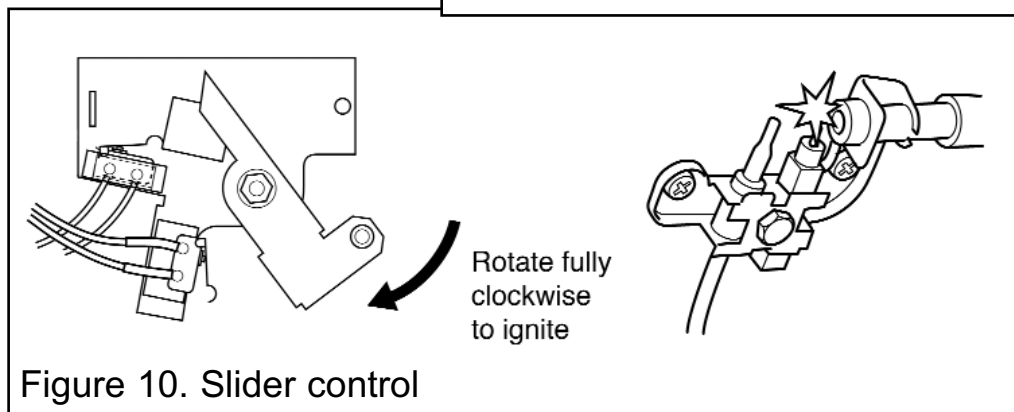

Figure 10. Slider control
- Depress the control pivot plate as far as it will go. This should close the ignition circuit. Sparks should be seen tracking from the electrode pin to the pilot tip (See figure 10).
- Press down the control knob as far as it will go. This should close the ignition circuit. Sparks should be seen tracking from the electrode pin to the pilot tip (See figure 10).